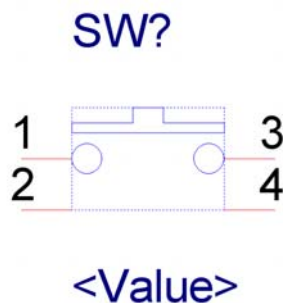

Figure 3.8: Edited Pushbutton Symbol
- Add two more pins, and arrange them as in **Figure 3.8**